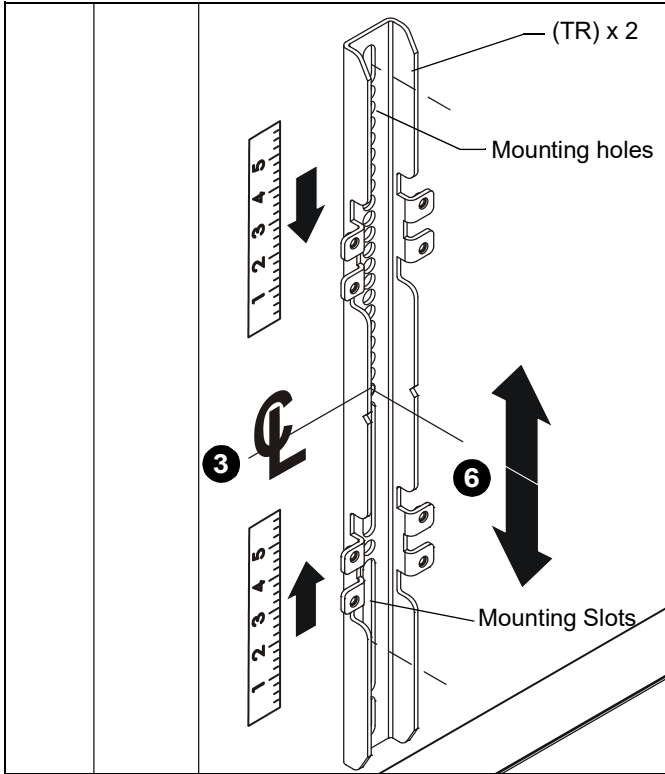
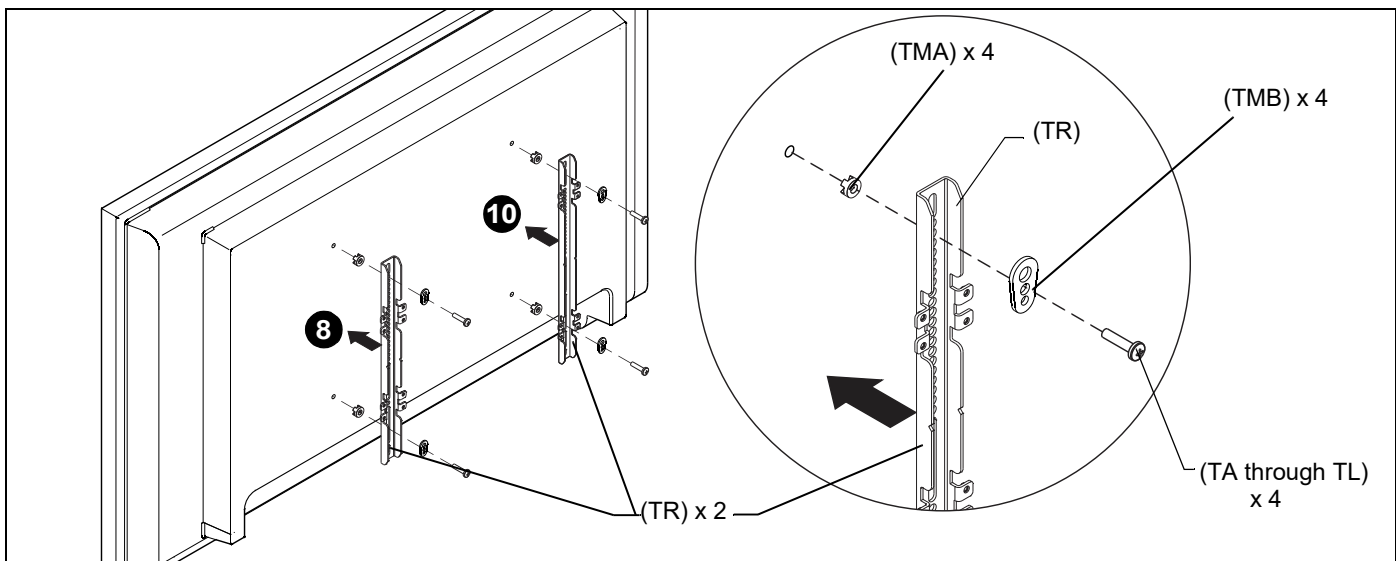

Figure 15
Figure 17
3. Determine and mark the vertical center position between the Left side Upper and Lower mounting holes in display. (See Figure 15)
4. Determine and mark the vertical center position between the Right side Upper and Lower mounting holes in display. (See Figure 15)
5. Orient vertical mounting bracket (TR) so that mounting holes are on top and mounting slots are on bottom. (See Figure 15)
6. Align mounting holes in vertical mounting bracket (TR) with upper and lower mounting holes in display.
7. Adjust vertical mounting bracket (TR) position until mark made in Step 1 aligns with center mark in vertical mounting bracket (TR).
8. Select correct screws, nesting spacers (if necessary) and universal washers (if required) from the hardware bag (TA-TM) and attach brackets to back of screen. (See Figure 17)
9. If the display has a recessed mounting surface, protrusions or a power box, a spacer and longer mounting hardware must be placed between the display and vertical mounting bracket (TR). (See Figure 17)